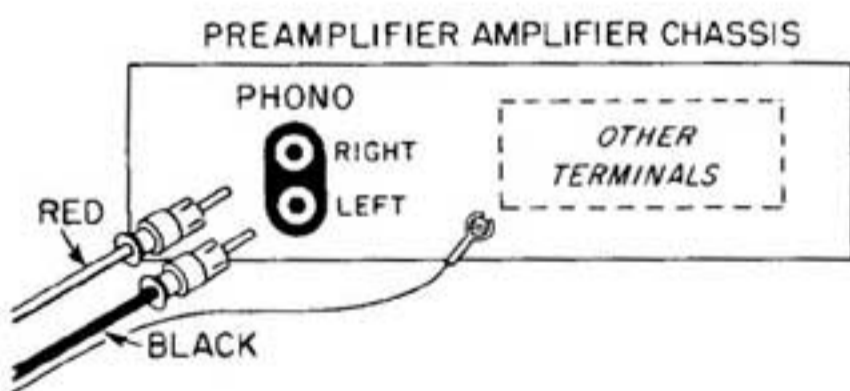

Fig. 5
The Micropoise tonearm has been designed to facilitate the electrical connection of the tonearm to the amplifier in the simplest manner. Connecting cable (J) contains two completely shielded connecting wires and one ground wire. The cartridge connecting cables are prewired to a standard phono plug (R and Q) facilitating the direct connection of the cables to the amplifier without the need for soldering. The ground wire is equipped with a spade lug for installation under any grounding screw of the preamplifier chassis. (See Fig. 5.)